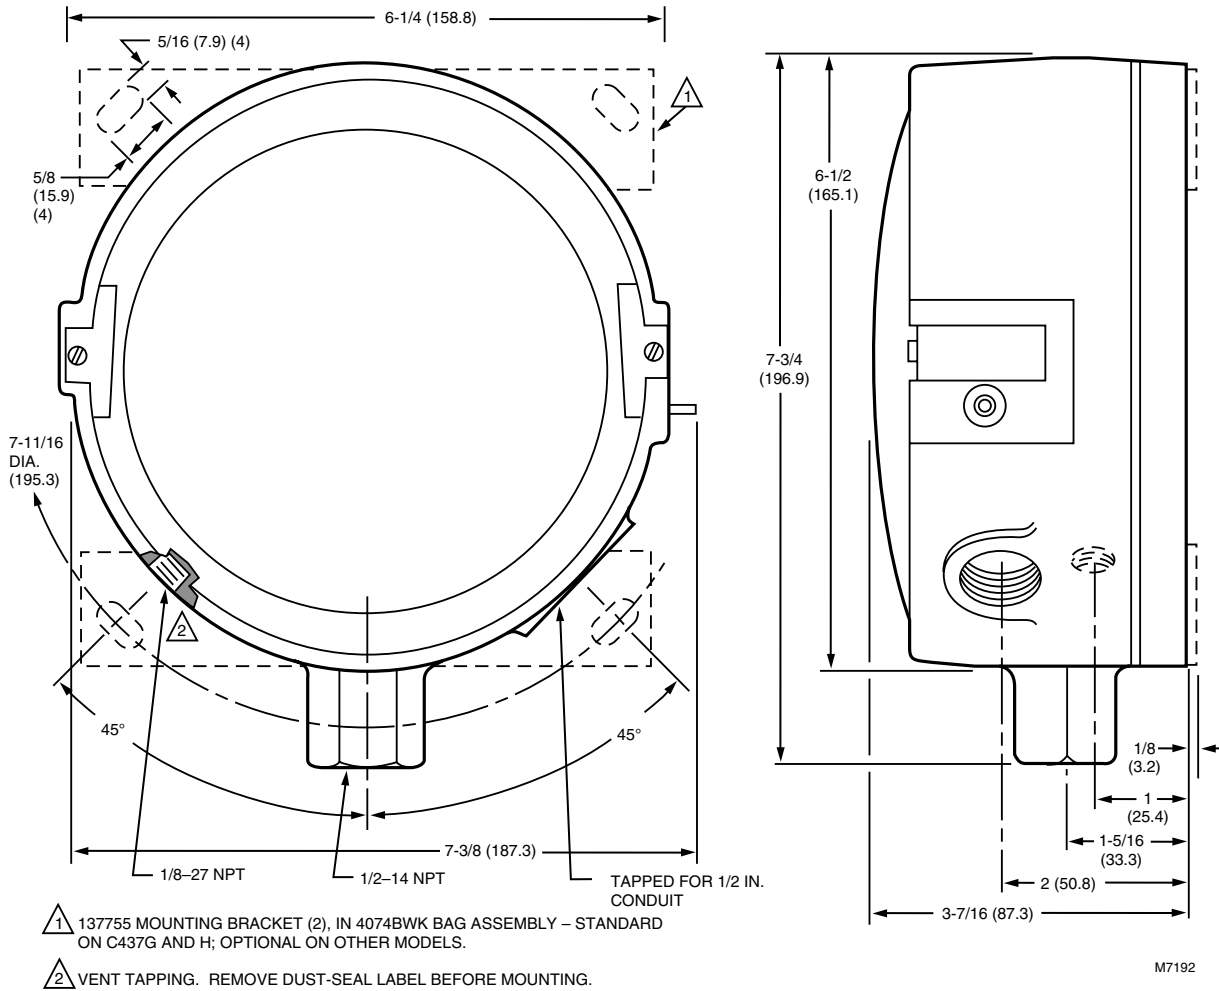
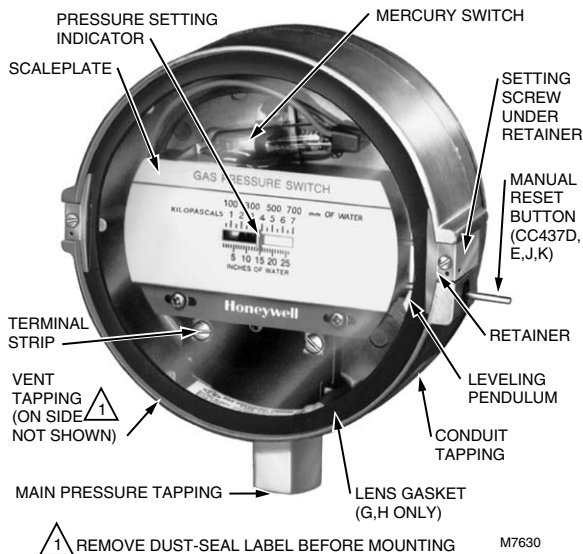

Fig. 1. Installation dimensions of the C437 and C637 gas pressure switches, in in. (mm).
Fig. 2. Principal parts of the gas pressure switch.
- 4074BWK Bag Assembly: Contains two 137755 Mounting Brackets and four self-tapping screws: for surface mounting (standard on C437G and H). Mounting brackets are shown by dashed lines in Fig. 1.
Fig. 1 shows the mounting dimensions for the C437 and C637 models, and for the accessory mounting bracket (standard on C437G and H). See Fig. 2 for the individual components.
Remove the retainer and adjust the *setpoint* for the desired operating pressure (cutout pressure on a C437D,E,G, or H spst model) by turning the setting screw (Fig. 2) clockwise to increase the setpoint and counterclockwise to decrease it.
To reset one of these pressure switches, wait until the pressure *falls* to the setpoint minus the differential (C437D or J), or *rises* to the setpoint plus the differential (C437E or K). Then depress the manual reset button (Fig. 2) and release it. *The pressure switch will not be reset until you release the manual reset button.* This prevents the switch from becoming an automatic-reset device if the reset button is stuck, held in, or tied down.
- 2 Turn the setting screw (Fig. 2) slowly toward a lower pressure setting (counterclockwise ↺) to simulate a pressure increase.
- 6 Push the manual reset button (Fig. 2) on the C437D or J; the C437D should make, and the C437J should break R to W and make R to B.
- 5 Push the manual reset button (Fig. 2) on the C437E or K; the C437E should make, and the C437K should break R to B and make R to W.